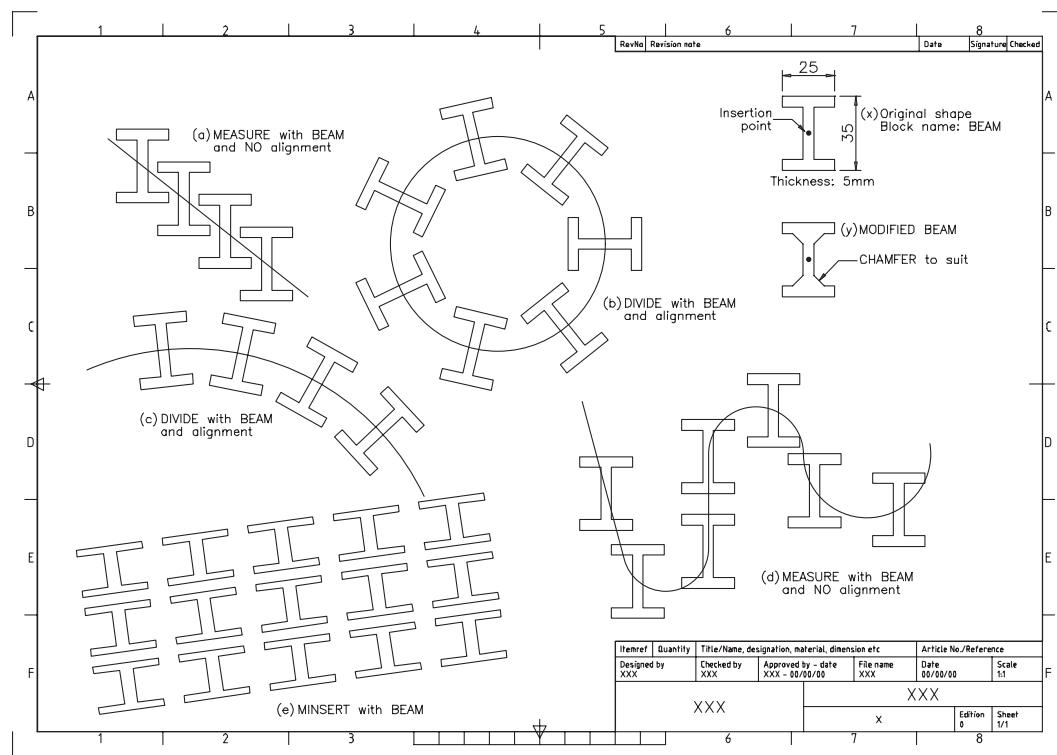

Figure 28.6 Using blocks.
- 2 Refer to Figure 28.6 and draw the original I beam shape as Figure 28.6(x) then:
- 3 Draw an inclined line, a circle, an arc and a polyline shape of line and arc segments – discretion for sizes, but use Figure 28.6 as a guide for the layout.
enter	25 <R> – Figure 28.6(a).
prompt Enter the number of segments and enter **7 <R>** – Figure 28.6(b).
a) divide the arc using block BEAM, with alignment and five segments – Figure 28.6(c)
b) measure the polyline using block BEAM, no alignment with a segment length of 45 – Figure 28.6(d).
8 The block BEAM is arrayed in a 4×6 rectangular matrix – Figure 28.6(e).
a) refer to Figure 28.6 and add a chamfer effect to the original shape as Figure 28.6(y)